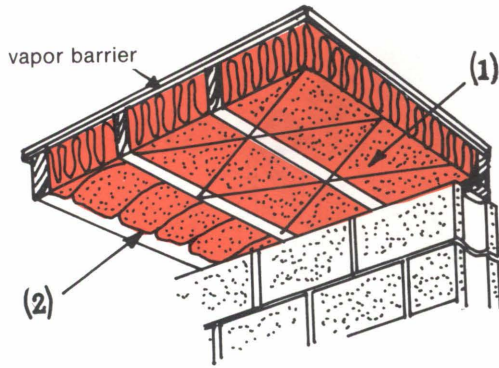

Figure 19
When the spaces between floor joists are insulated (Figure 19), the vapor barrier should face up. Insulation blankets may be held in place by (1) wires laced between nails in the bottoms of joists, or (2) heavy-gage wires bowed and wedged between joists.